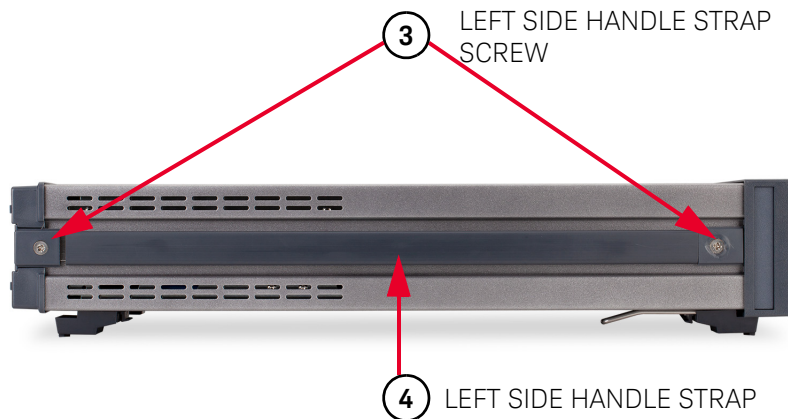

Figure 3-2 Remove/Install left side handle
- 5** Refer to Figure 3-2. Turn the instrument so its left side faces you.
- 17 Refer to Figure 3-2. Reinstall the left side handle strap. Use the #1 Pozidriv to reinstall the side handle strap screws.